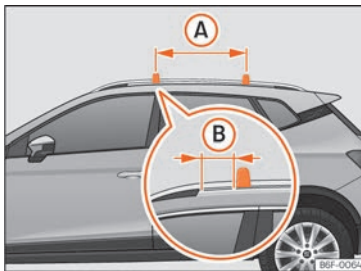

Fig. 150 Attachment points for the roof railings for the roof carrier
The crossbars are assembled on the roof railings. The distance between cross bars >>> **Fig. 150** (A) should be 75 cm and the distance between the cross bars and the brackets of the roof railings (B) should be 5 cm.